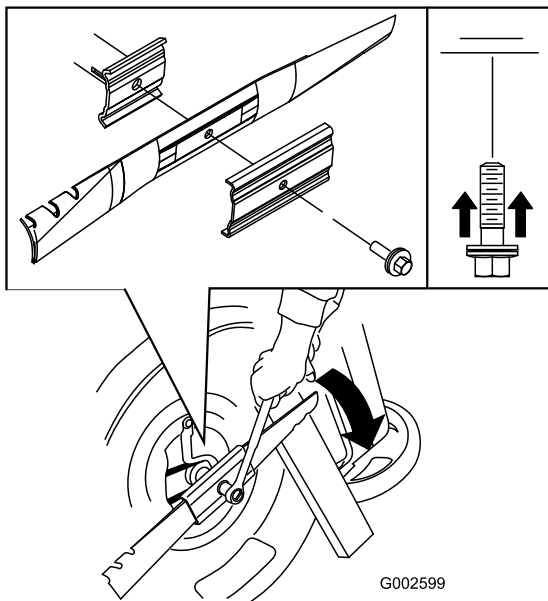

Figure 27
5. Install the new blade (turn the blade bolt clockwise) and all mounting hardware (Figure 27).